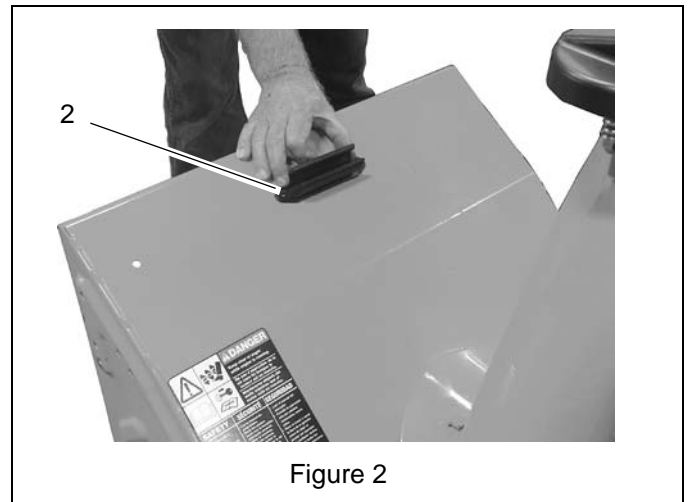

Figure 2
2. Use the snow clean-out tool mount (item 2) as a template to lay out two mounting holes on the top of the auger housing. See Figure 2.